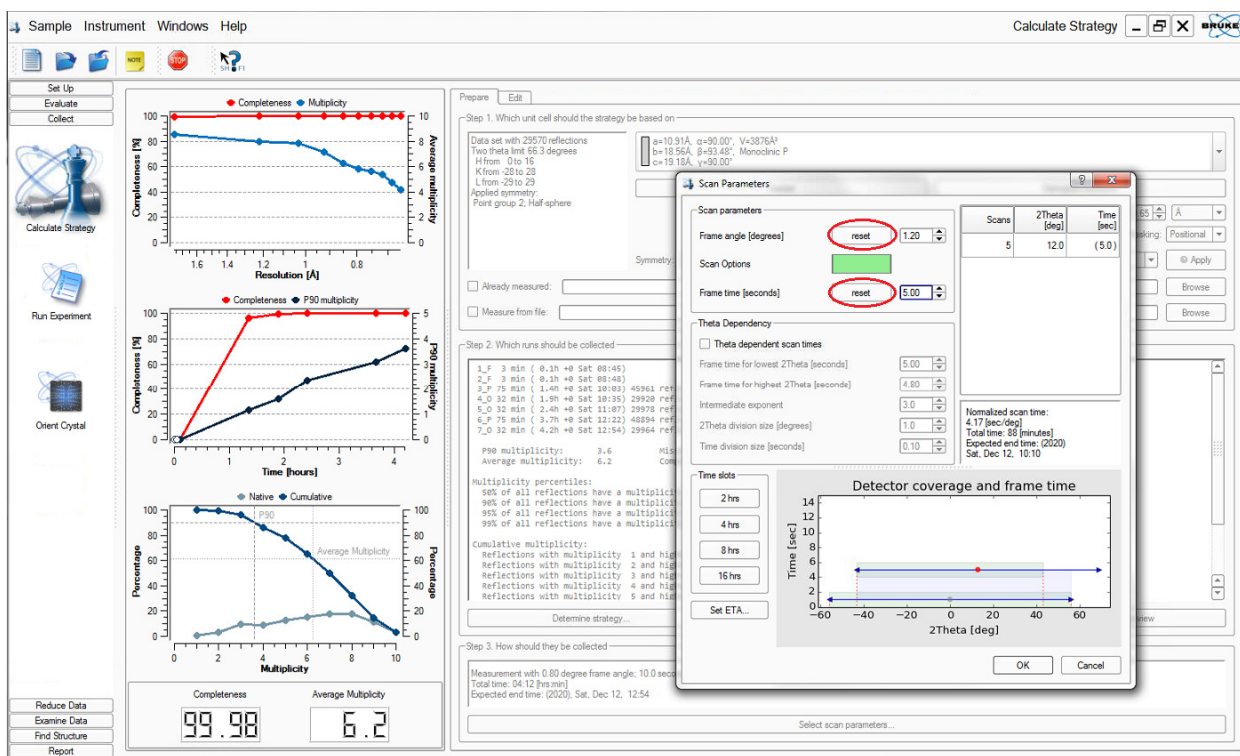

Figure 17, Strategy Window with Scan Parameters sub-window
- Under Step 3., click Select Scan Parameters. A popup window will emerge. Click the two reset buttons for “Frame angle” and “Frame time” to obtain (usually reasonable) suggested values (Fig. 17).